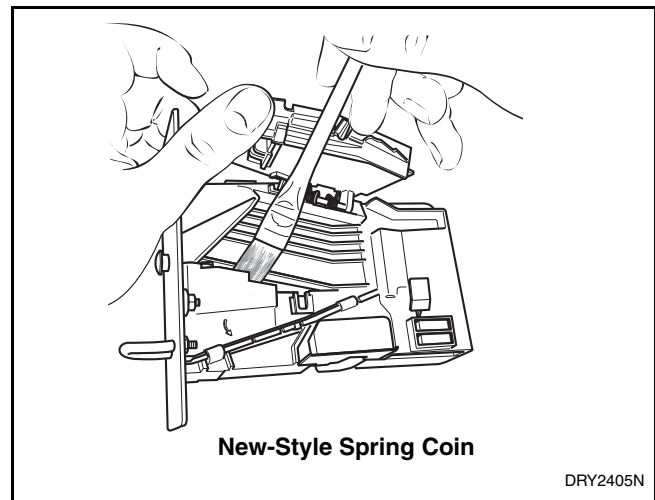
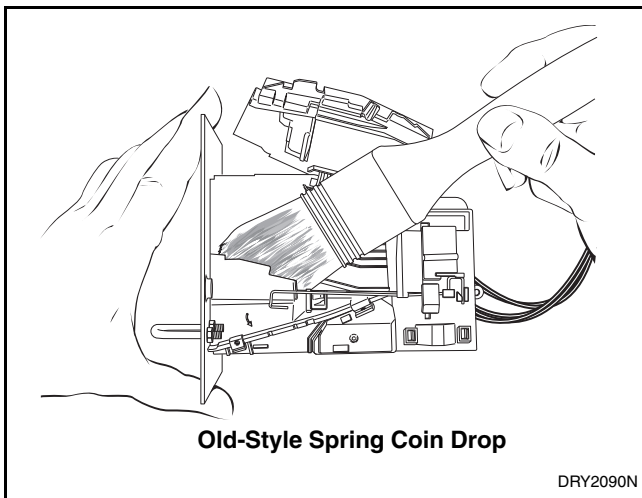

Figure 28
Figure 27
- d. Clean the coin path with a soft brush and wipe exposed surfaces with an alcohol moistened cloth. Refer to *Figure 27* or *Figure 28*.